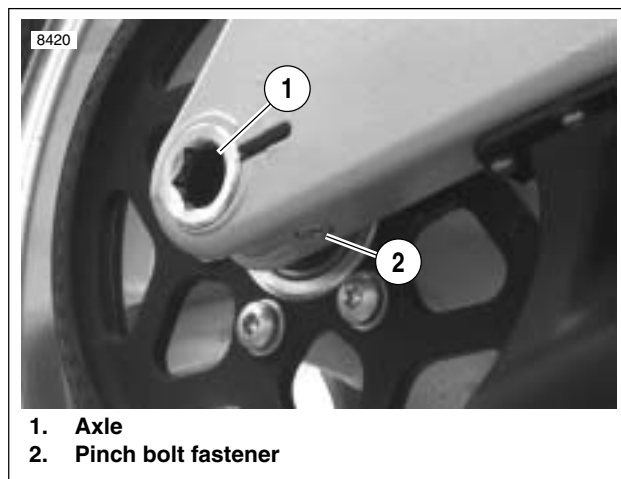

Figure 1-42. Rear Wheel Mounting, Right Side
1. See Figure 1-42. Loosen rear axle pinch fastener (2).
5. See Figure 1-42. Tighten rear axle to 48-52 ft-lbs (65-70 Nm).
6. Tighten rear axle pinch fastener (2) to 40-45 ft-lbs (54-61 Nm).